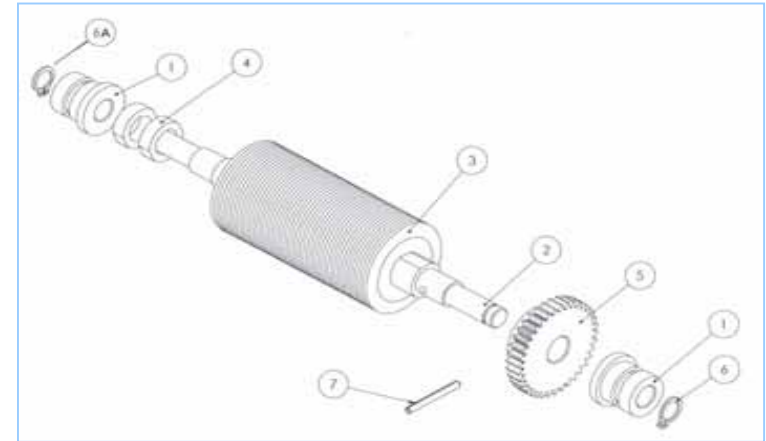

Fig. 12. Exploded view drawing of the blades axis
After frequent use the blades might have become blunt and cutting results may be insufficient. In such case the blades have to be replaced by new ones. You can simply change the whole blades axis for a new one and send the old one to Humeca or your local dealer. Humeca will then replace the blades on the old axis and return it. However, if you want to exchange the blades only, please read the following instructions and have a look at fig. 12.
- Remove the locking ring from the axis at the opposite side of the gearwheel (no. 6A in fig. 12). There are special tongs to remove
- Remove the bearing ring at that side (no. 1 in fig. 12).
- Loosen the two nuts (no. 4 in fig. 12) carefully with a spanner 16 mm. To prevent the axis from rotation, you have to can fix it with a second spanner (13 mm) on the flat sides in the area between the gearwheel and the blades.